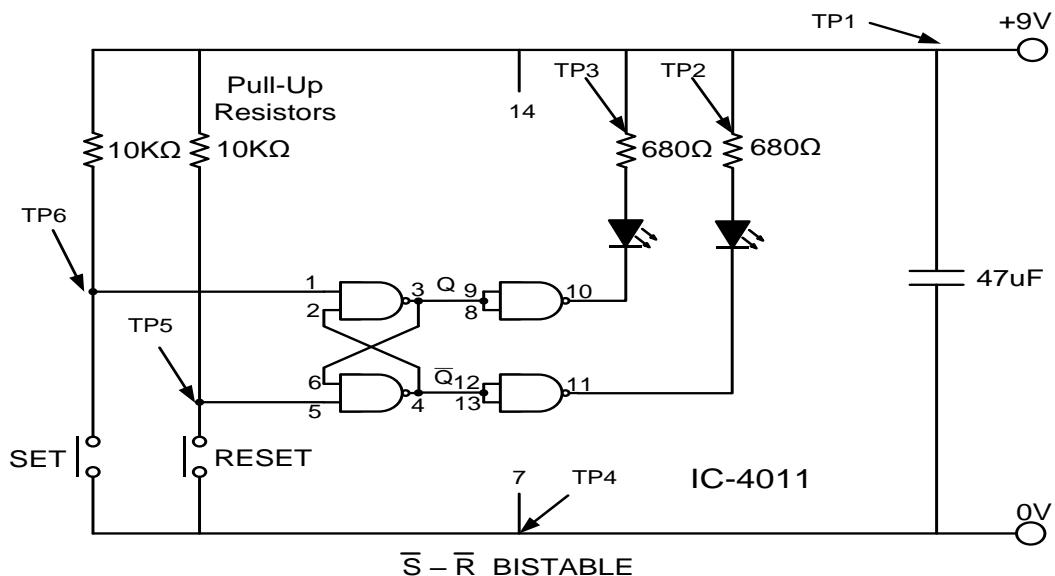

Figure 52
1. Connect the circuit diagram as shown in Figure 52.